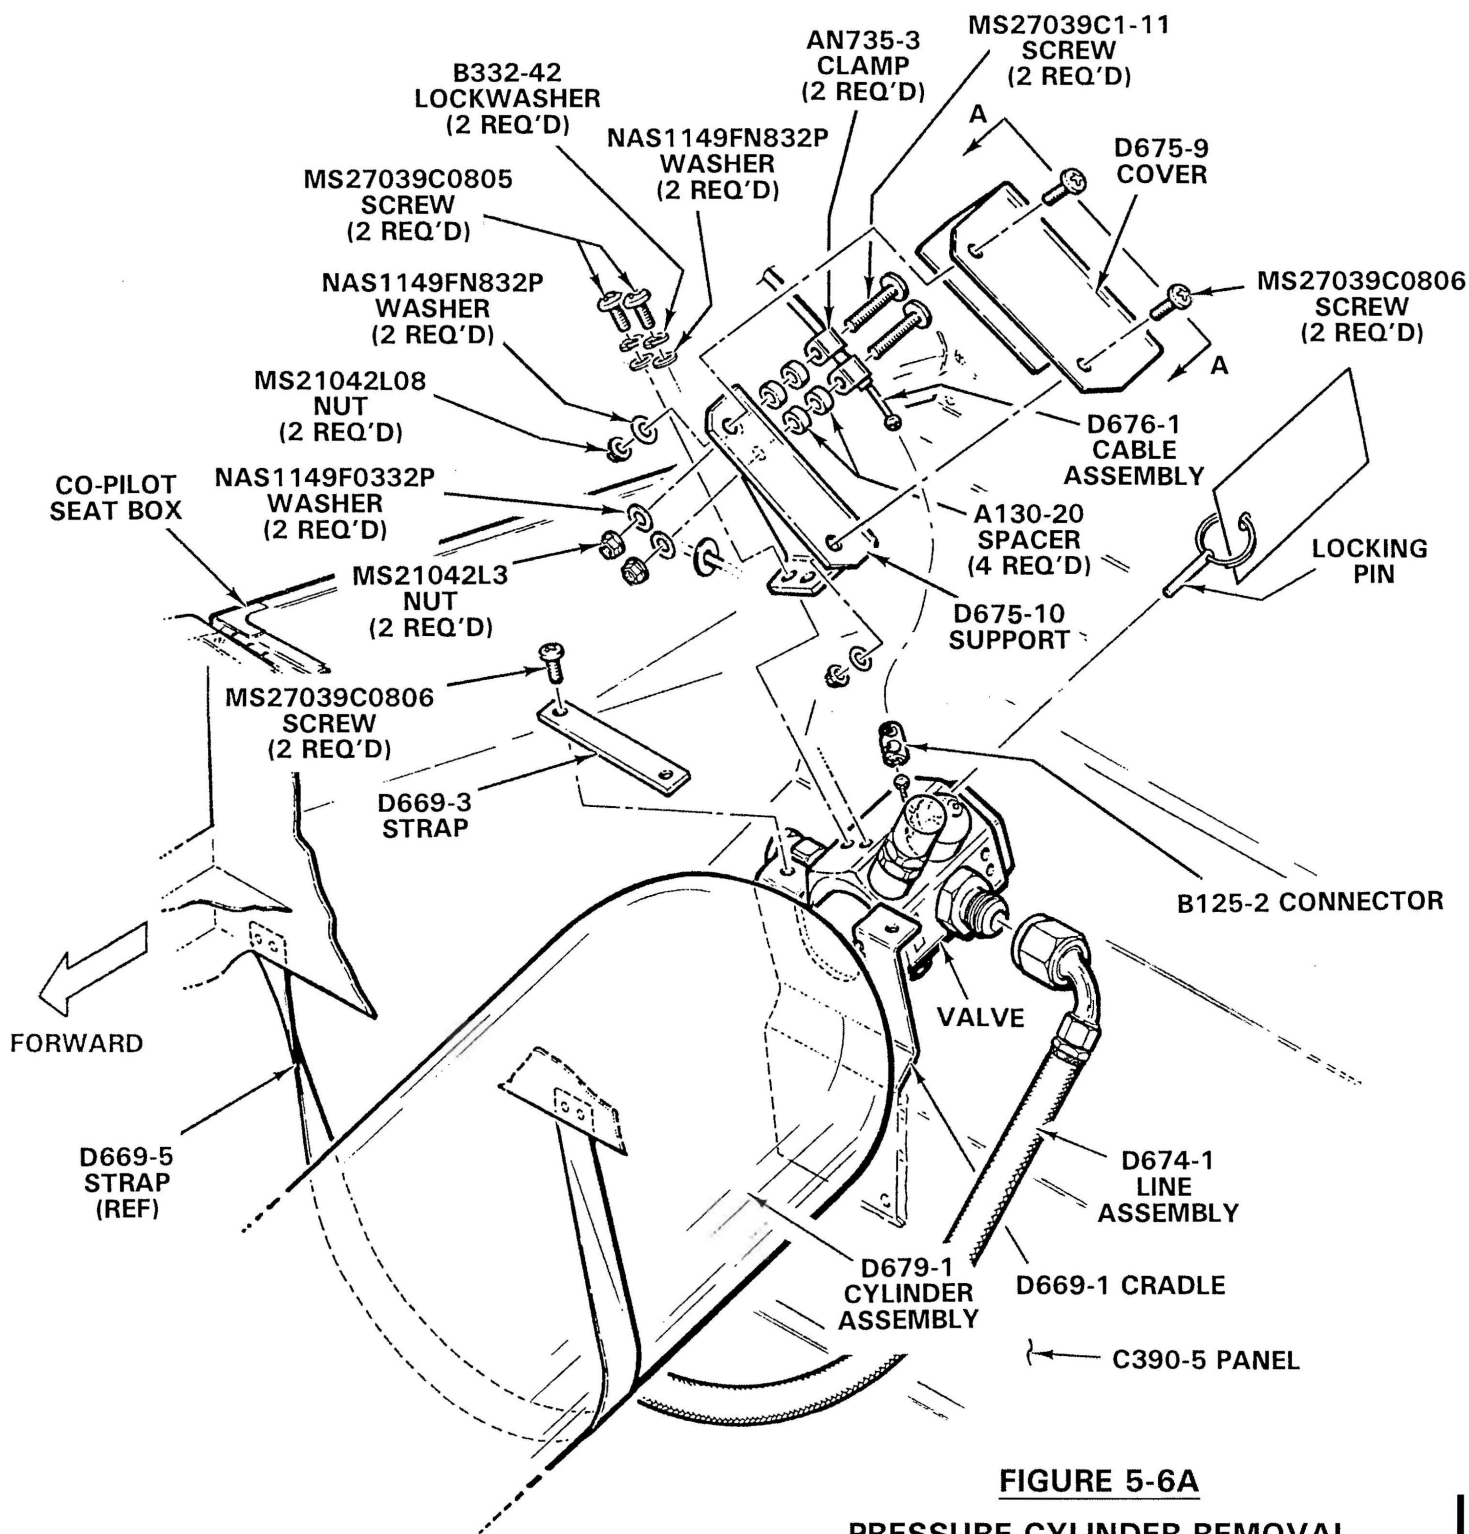

**FIGURE 5-6 FILLING PRESSURE CYLINDER**
Cylinder contents are under extreme pressure. Install locking pin in pressure cylinder valve (see Figure 5-6) when working in forward left baggage compartment, during cylinder removal or installation, and when working on pop-out floats or inflation hoses. **Remove locking pin when work is completed.**
5.665 Filling Pressure Cylinder (See Figure 5-6)**WARNING**
**VIEW A-A FROM FIGURE 5-6
Cylinder contents are under extreme pressure. Install locking pin in pressure cylinder valve (see Figure 5-6) when working in forward left baggage compartment, during cylinder removal or installation, and when working on pop-out floats or inflation hoses. Remove locking pin when work is completed.